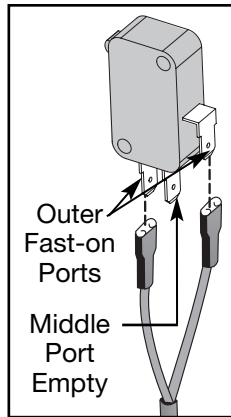

Figure 4
- B. Push the fast-ons on the two outer fast-on ports (leaving the middle port empty). See Figure 4. **NOTE:** It doesn't matter which fast-on goes on which port.